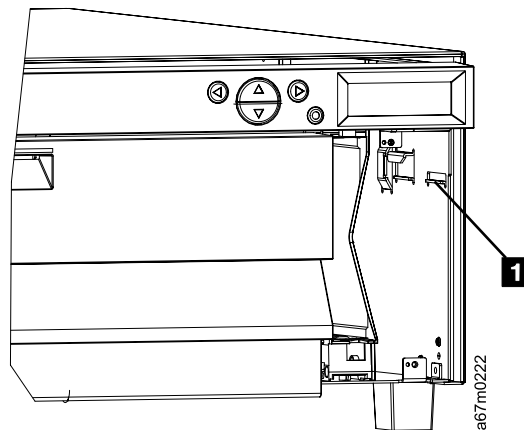

Figure 88. Bar Code Scanner Guide
5. Slide the plastic tab on the right side of the I/O door bracket (see Figure 88) into the metal guide inside the 3582 Ultrium Tape Library.